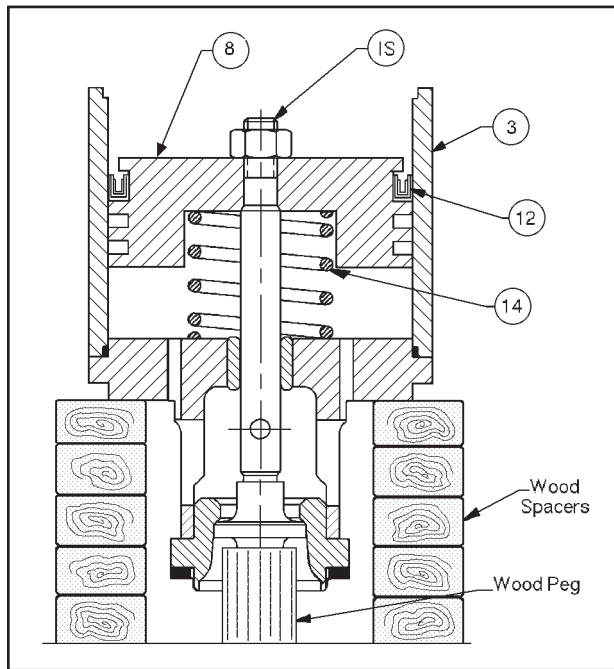

FIGURE 4
31. Place a thin film of lubricant onto the cylinder (3) inside wall at the wear points of the piston seal (12). Wipe excess lubricant away with a clean, dry cloth.
32. Place cylinder (3) into a strap support and lift with an overhead hoist. Swing cylinder (3) over threaded end of plug-stem assembly (7) and lower into the shoulder of bonnet (2), taking care to protect ring gasket (13) of previous article 30., above. Align match marks and apply duct tape to hold cylinder (3) to bonnet (2).
33. Place piston (8) with recess for piston spring (14) face down on flat surface.
34. Position a small section of the seal (12) circumference around the top recess of the piston (8). Apply an equal amount of thumb pressure on opposing sides of the seal (12) as the seal (12) is pressed around and over the top of the piston (8) into the recess. NOTE: Install seal (12) with opening of U-Cup facing upwards.
35. Place piston spring (14) into recess of piston (8).
36. Rotate stem (7) until the tool of previous article 13., this subsection, can be inserted through hole of stem (7). Leave the tool in the hole.
37. Carefully slide piston (8) with captured piston spring (14) into cylinder (3). Insert a rod or similar tool into the center hole of the piston (8), and simultaneously lift and move into the cylinder (3) deeper. Using fingers of one hand, push the plug-stem assembly (7) together from the plug (7) end. Lift piston (8) onto threaded portion of plug-stem assembly (7) as far as possible, removing tool when necessary. Place hand into cylinder (3) and push the piston (8) until the piston spring (14) begins to compress.
38. Place temporary eyenut onto threaded end of plug-stem assembly (7). Finger-tighten eyenut until piston spring (14) is slightly under compression.
39. Place a rope, cable, etc., through the eyenut and rig for overhead lifting. Simultaneously, loosen the grip of the vise on the bonnet (2), lift the cylinder (3) with its hoist, and lift the partial internals subassembly (IS) with its hoist. Continue the lifting slowly until the internals subassembly (IS) is vertical. Release the strap support from the cylinder (3). Fully release the vise's grip.
40. Place a round wooden peg about 2" (50 mm) tall with flat ends, and small enough to fit within the seat ring (5) onto a flat work surface. Swing
partial assembly of previous article above until centered over the peg. Lower partial assembly down onto peg until weight is resting on peg. Place spacers near outside diameter of bonnet (2) 180° across to stabilize partial assembly from tipping over. See Figure 4.